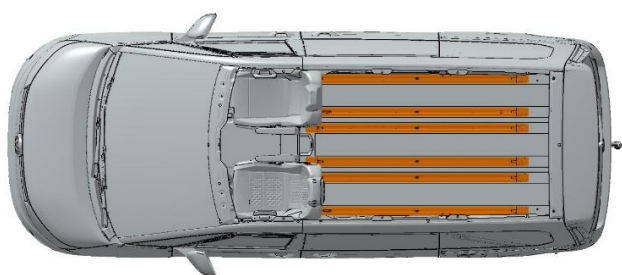

Fig. 1: Multivan for Converters (PR number Z3J), view from above without pop-up roof.
(1) Additional equipment with PR number P3J available as an option. This package also includes the PR number “5BG” floor covering with step-reinforced velour carpet including the rail system with six seat rails (see figure 1 below) mounted in the vehicle interior. The floor covering is a carry-over part from the Multivan model.